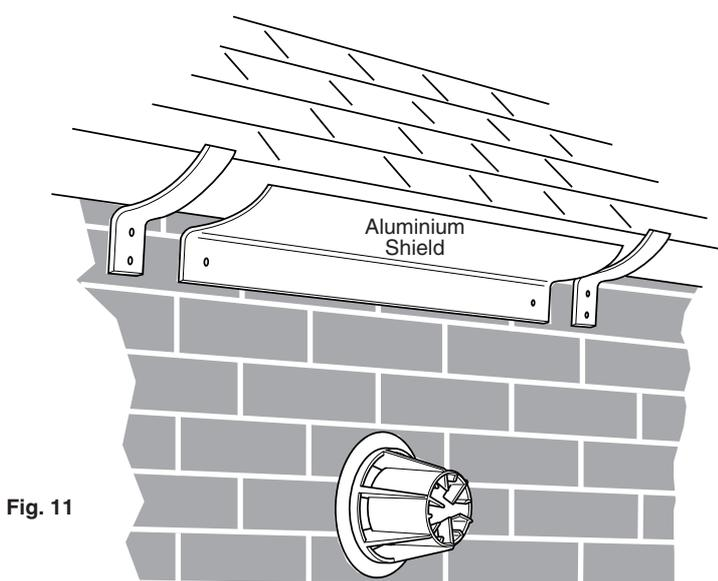

Fig. 11
3. If the terminal is fitted within 1 metre (39in) of a plastic gutter, within 500mm (191/2 in) of a painted eave or a painted gutter, an aluminium shield of at least 1 metre (39in) long should be fitted to the underside of the gutter or painted surface. An air space of 5mm (3/16 in) should be left between shield and gutter (Fig. 11).